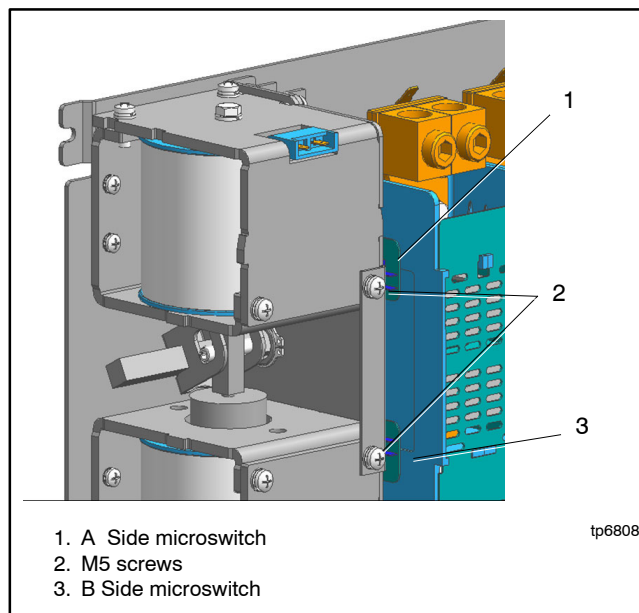

Figure 7-41 Microswitch Disassembly
1. Remove the two M5 screws. See Figure 7-41.